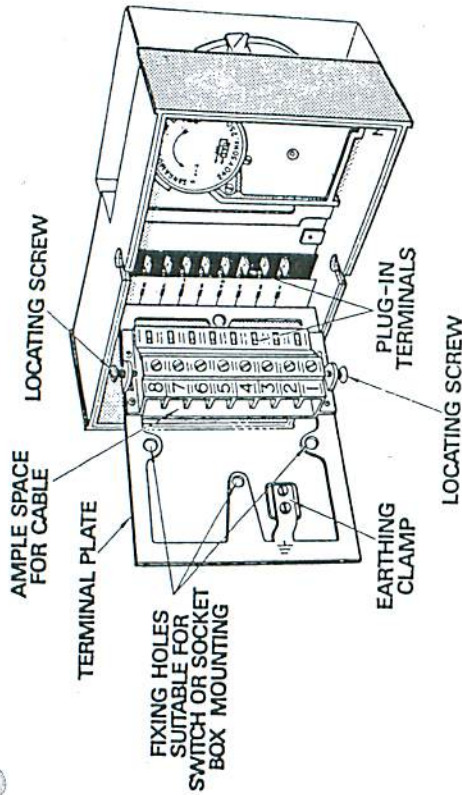

Fig. 1
1. Loosen the two locating screws (fig 1).